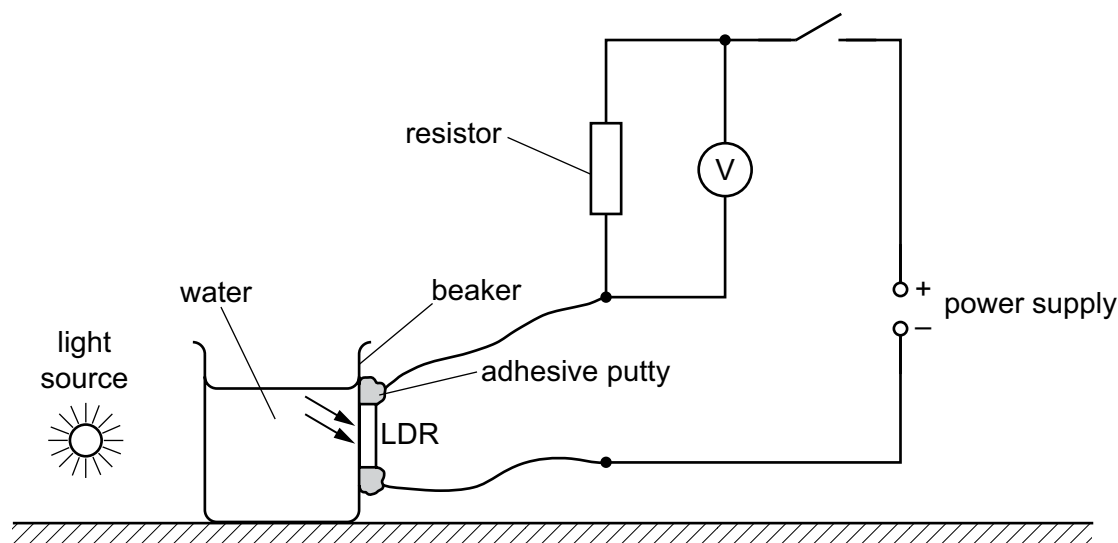

Fig. 1.1
- 3 The supervisor should assemble the circuit and other apparatus as shown in Fig. 1.1.
The supervisor must ensure that the apparatus is in the configuration shown in Fig. 1.1 with only  $150 \text{ cm}^3$  of fresh water in the beaker and the light source switched off.